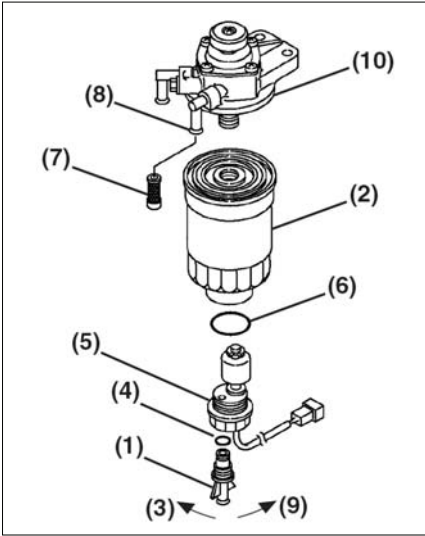

Figure 5-15
5. Carefully open the drain plug (**Figure 5-15, (1)**) to drain fuel from the fuel filter.
7. Remove the drain plug (**Figure 5-15, (1)**) from the fuel filter (**Figure 5-15, (2)**) by turning it to the left (**Figure 5-15, (3)**).
8. Check the condition of the drain plug O-ring (**Figure 5-15, (4)**). Replace the O-ring if damaged.
10. Remove the fuel filter sensor assembly (Figure 5-15, (5)) by turning it to the left (Figure 5-15, (3)).
11. Carefully remove the in-line fuel filter (Figure 5-15, (7)) from the output nipple (Figure 5-15, (8)) that goes to the fuel injection pump.
13. Carefully install the new in-line fuel filter (Figure 5-15, (7)) into the output nipple (Figure 5-15, (8)).
14. Carefully install the fuel filter sensor assembly (Figure 5-15, (5)) in the new fuel filter using the new O-ring supplied with the fuel filter (Figure 5-15, (2)) by turning the fuel filter sensor assembly to the right (Figure 5-15, (9)).
15. Install the drain plug (Figure 5-15, (1)) on the new fuel filter (Figure 5-15, (3)) by turning the drain plug to the right (Figure 5-15, (8)). Hand tighten only.
16. Clean the fuel filter mounting surface (Figure 5-15, (10)) and apply a small amount of diesel fuel to the gasket of the new filter.